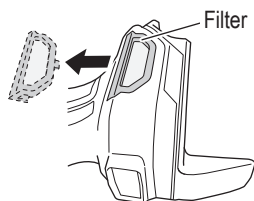

Fig. 22
- If the mesh is clogged and the debris or dust cannot be removed, detach the filter and clean it with an air blow gun, etc. (Fig. 22)